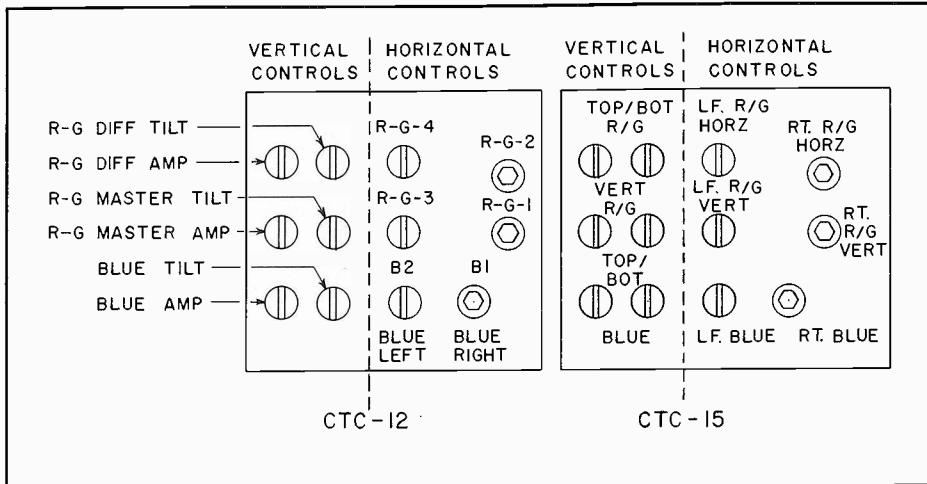

Figure 6—Dynamic convergence controls for CTC-12 and CTC-15 chassis. The CTC-15 controls have been rearranged for easier set-up.
**Step 6—Dynamic Convergence.** With the purity and static convergence set, it is time to adjust the dynamic convergence. The dynamic convergence boards used on current color receivers are all quite similar in appearance and operation. Figure 6 shows the control arrangement on the dynamic convergence board of